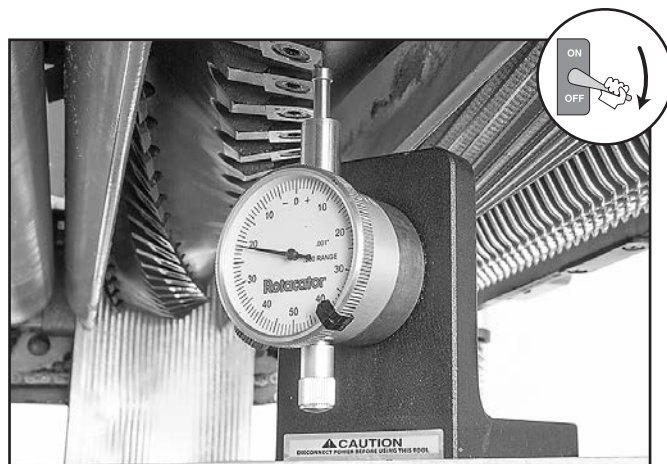

Figure 95. Example of using a Rotacator to find cutterhead BDC.
5. Using Rotacator/dial indicator, find bottom dead center (BDC) of any insert edge by slowly rocking cutterhead pulley back and forth, then set Rotacator/dial indicator to "0" (see **Figure 95**).